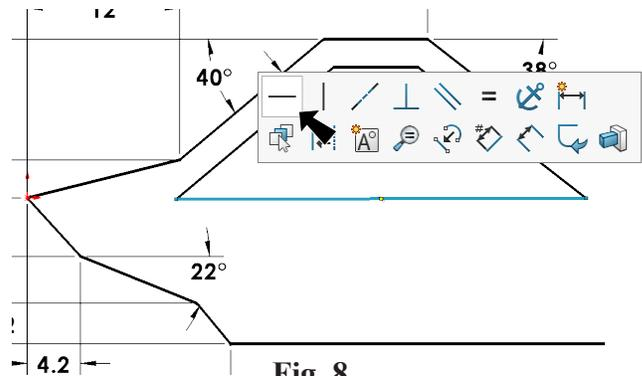

Fig. 8
Step 11. Click **Line**  (L) on the Sketch toolbar.
Step 12. Sketch a **line across endpoints** and **Make Horizontal**  on the context toolbar, Fig. 8.
Step 13. Click **Smart Dimension**  (S) on the Sketch toolbar.